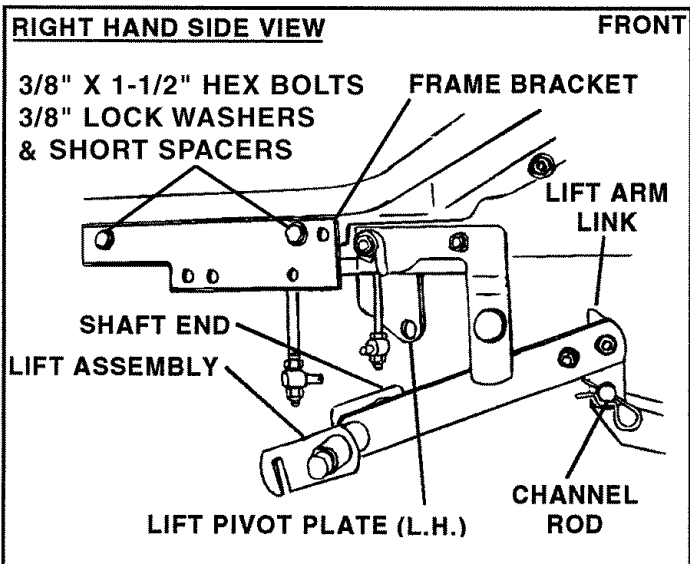

FIGURE 19
18. Assemble lift arm link over channel rod and insert pivot shaft end (from R.H. side of tractor) into hole in L.H. lift pivot plate. Secure lift arm link to channel rod with 1/8" (large) hairpin cotter. See figure 19.
19. Assemble a frame bracket under the right hand foot rest of the tractor using two 3/8" x 1-1/2" hex bolts, two 3/8" lock washers and four short spacers. Use two spacers on each bolt, between the frame bracket and the tractor frame. See figure 19.